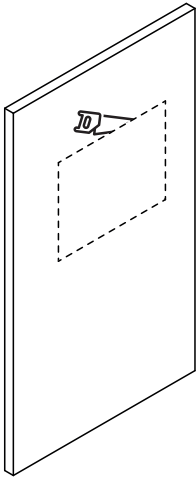

Fig 2.
This product can only be recessed fitted into a wall. Before installing ensure you take note of measurements of the recessed area and the side fixing points inside the cabinet carcass (See fig. 2 & 5).
3. Using an appropriate tool, cut or channel out the aperture in the wall where the cabinet will fit, *see Fig. 2*.